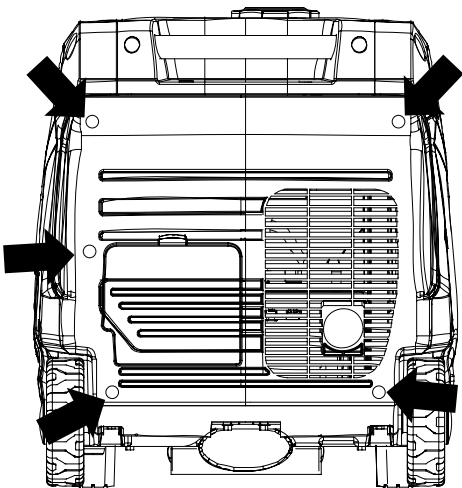

Figure 20: Remove Muffler Access Panel
- 3. Remove the screws holding the muffler cover in place (see Figure 20).